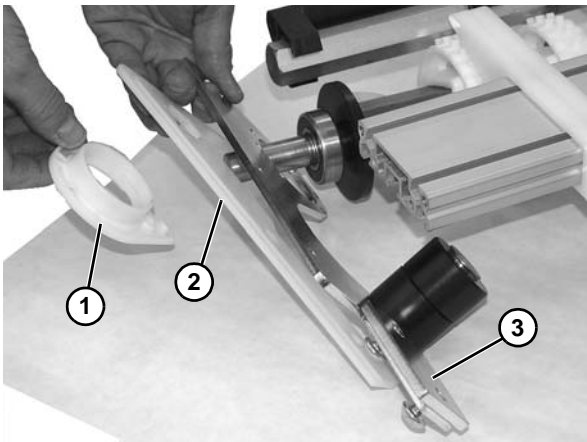

Figure 67
- Remove bearing housing (**Figure 67, item 1**), nose bar spacer (**Figure 67, item 2**), and nose bar backing plate assembly (**Figure 67, item 3**) from crossmember.